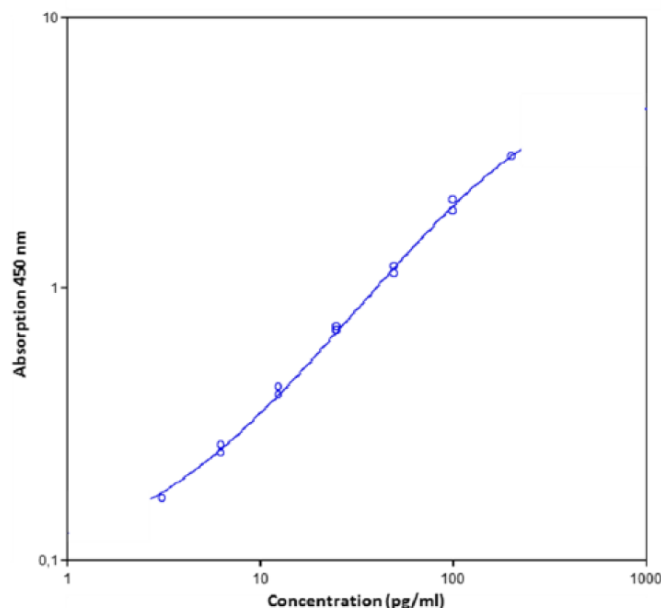

Fig. 7 Representative standard curve for human IL-9 ELISA. Human IL-9 was diluted in serial 2-fold steps in Calibrator Diluent.
- A representative standard curve is shown in Figure 7.